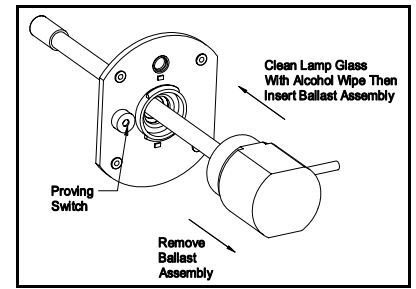

Figure 5
- Wipe off the bulb glass with the supplied alcohol wipe. Then insert the bulb through the center hole of the mounting base. (See Figure 5) The power cord must be 90° to the view port hole on the mounting base.
- Remove the ballast assembly and bulb from the mounting base. (See Figure 5)
- Slide the bulb through the hole in the mounting base. (See Figure 5)